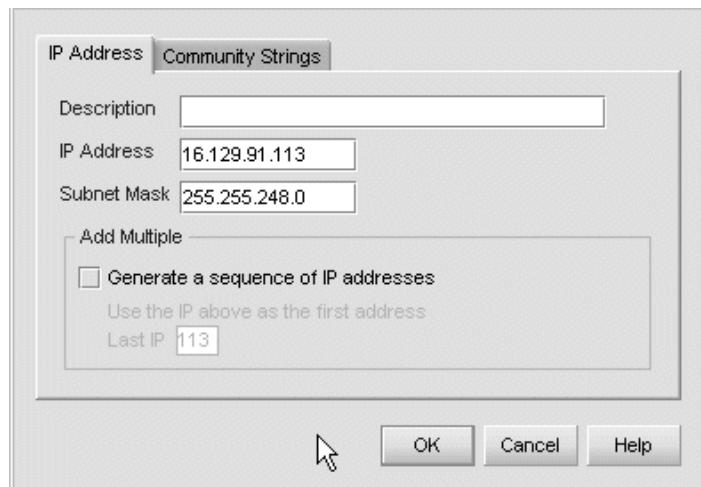

Figure 14: Domain Information dialog box (IP Address Page)
2. Click **Add**. The Domain Information dialog box displays with the IP Address page open by default (Figure 14).